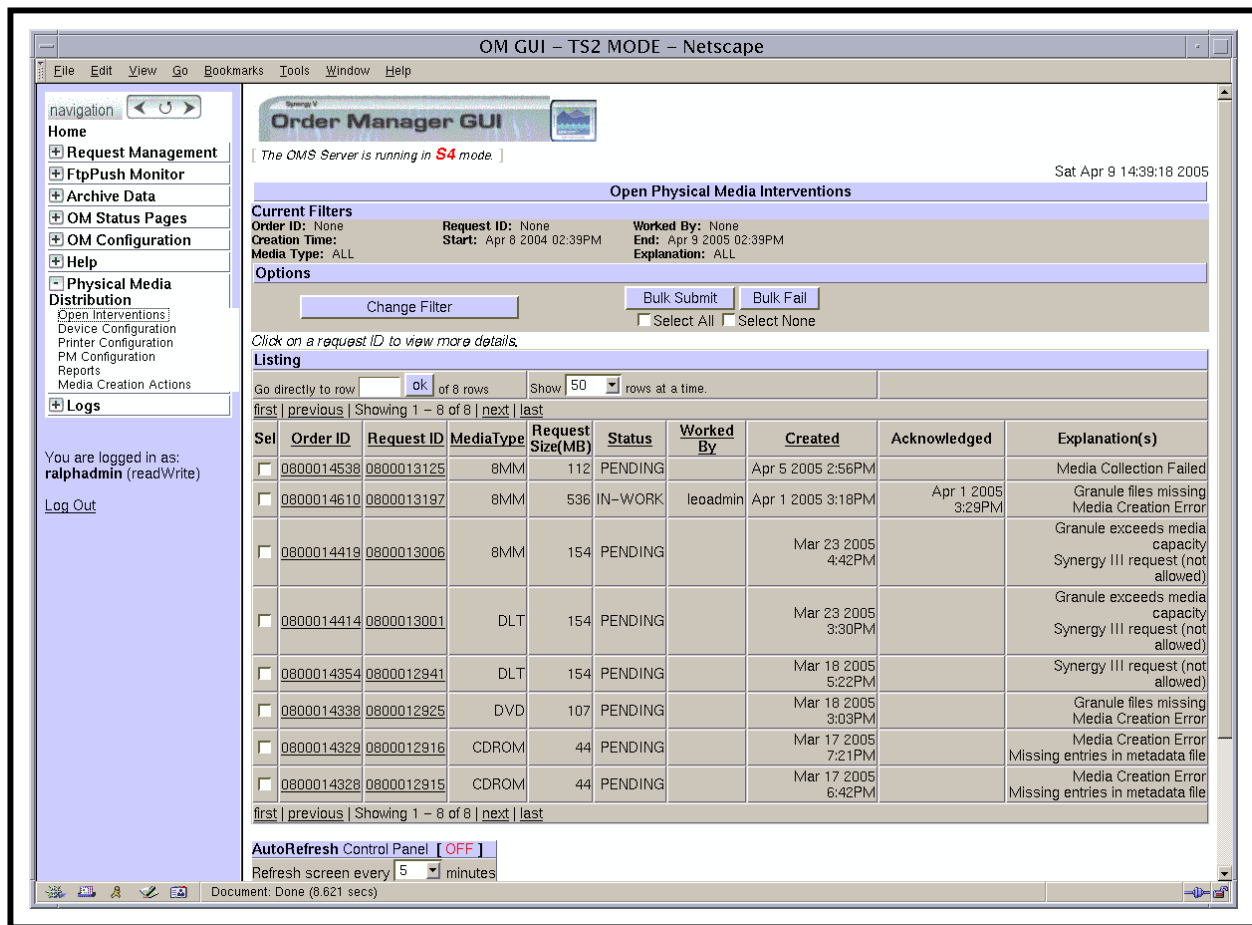

Figure 73. Open Physical Media Interventions Page
The **Open Physical Media Interventions** page (Figure 73) provides the full-capability operator with a means of viewing and responding to PMD open interventions.
- The **Open Physical Media Interventions** page (Figure 73) is displayed.